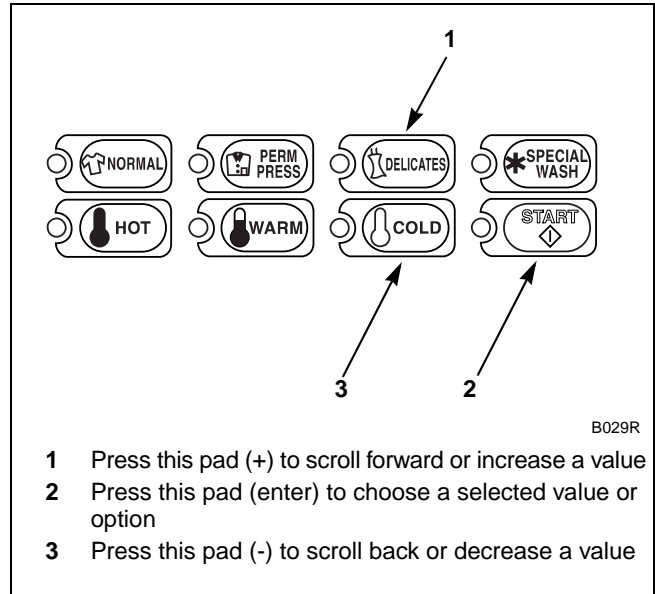

Figure 128
5. Press the DELICATES (+) or the COLD (-) keypad to increase or decrease the current number of minutes displayed in the VFD to the desired number of minutes. Refer to *Figure 128*.
**NOTE: The Normal PreWash #1 Fill/Tumble Time can be set from zero (0) to 15 minutes.**